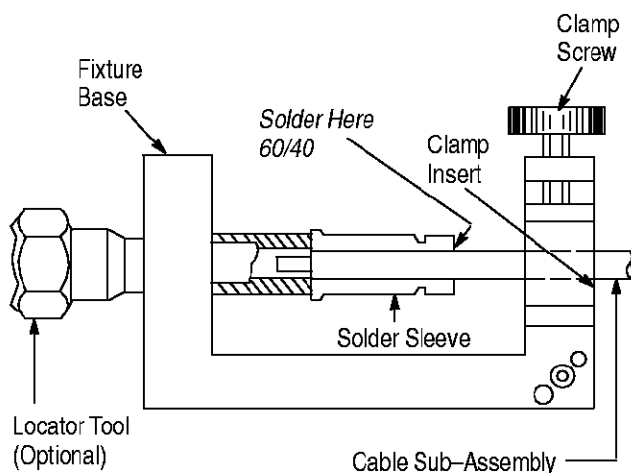

Figure 4
3.2. Soldering of Inner Sleeve to Cable (Figure 4)
2. Place loose assembly in fixture base as shown in Figure 4. (Slide clamp nut back out of way.)